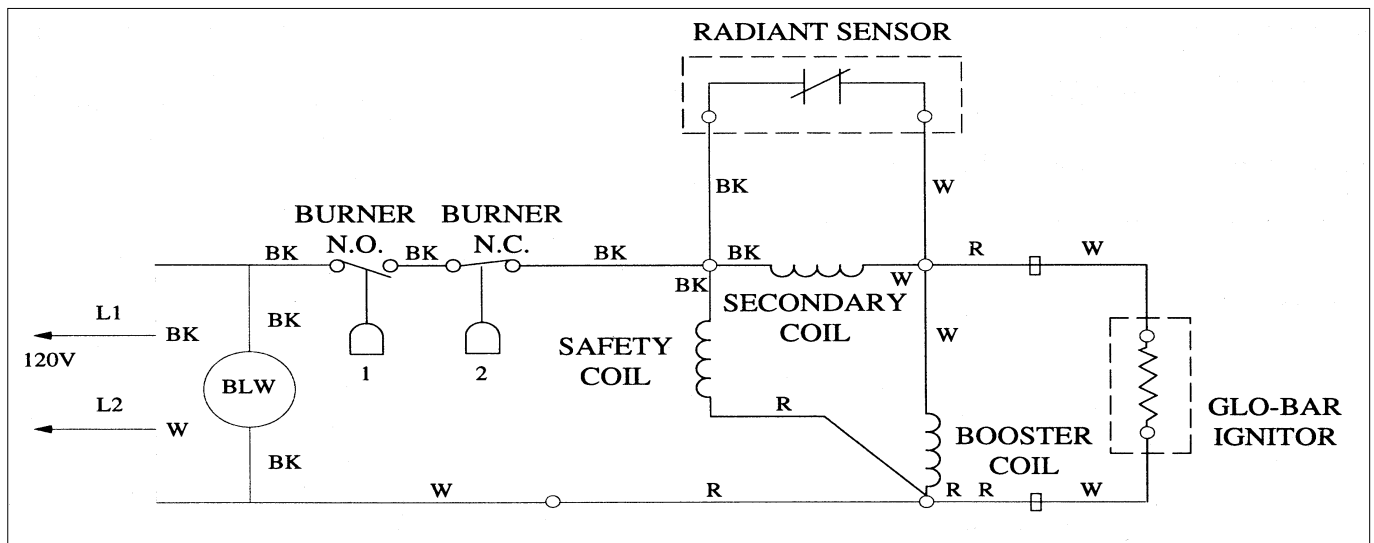

Figure 2-1
- **Starting Circuit (Figures 2-1 and 2-2)**